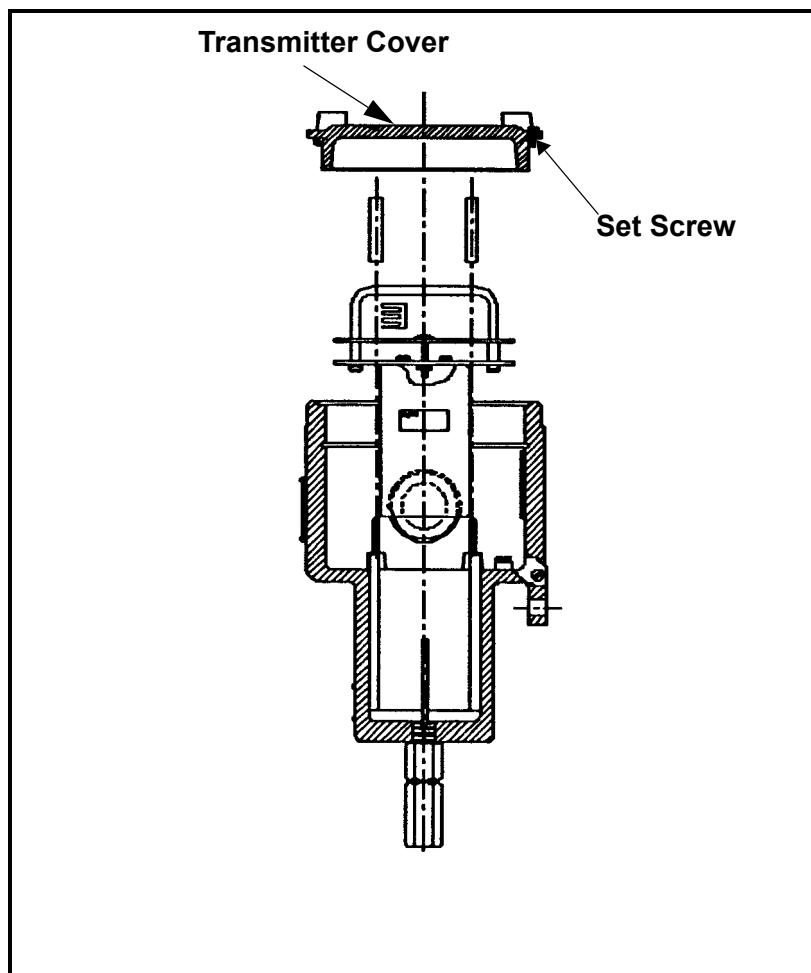

Figure 5-1: Transmitter Cover and Set Screw
2. Loosen the set screw that locks the TMO2-TC cover in place, and unscrew the cover (see Figure 5-1 below).